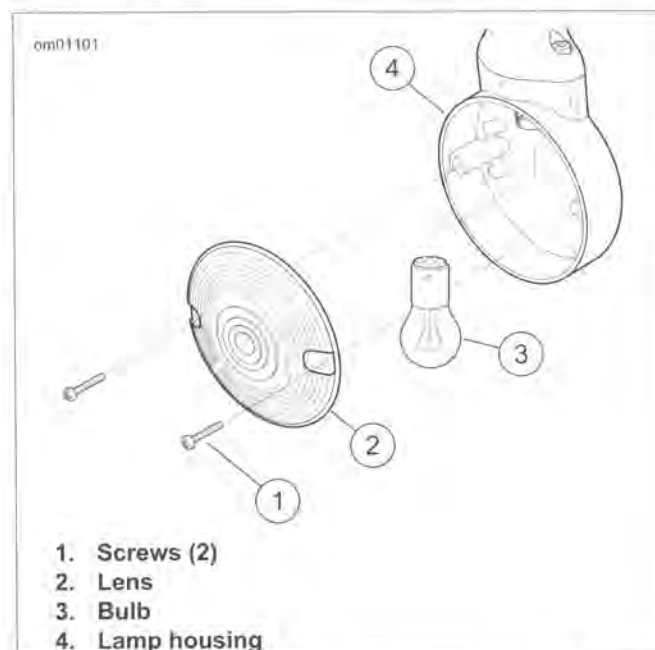

Figure 7-34. Turn Signal Lamp Assembly: Flat Lens Style
1. See Figure 7-34. Remove two screws to release lens from lamp housing.
- See Figure 7-34. Remove two screws to release turn signal lamp from mounting bracket.
- See Figure 7-34. Start two screws to secure turn signal lamp to mounting bracket. Verify that conduit fits in slot at back of bracket and is not pinched. Tighten screws to 30-60 in-lbs (4.1-6.8 Nm).